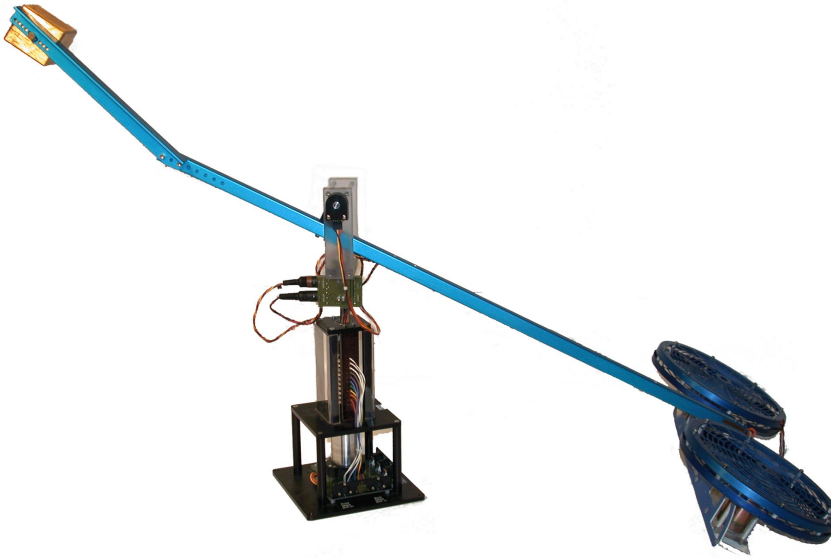

*Figure 9: Counterweight and secondary arm setup.*
8. As illustrated in Figure 9, attach the secondary arm to the end of the main arm, ID #6 in Figure 3, and tighten two screws through the nuts. The angle of the secondary arm relative to the main arm has been selected such that the effective mass at the helicopter end is relatively constant.
**NOTE: When using the Active Disturbance System, set the counterweight to the 0 g position, as depicted in Figure 9.**